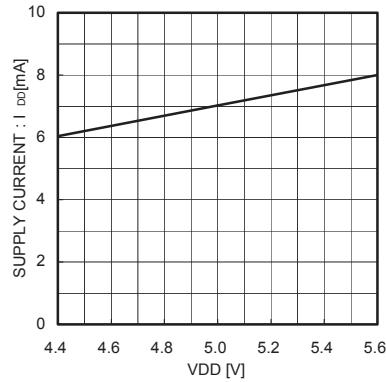

Fig.3 VDD Circuit Current
- Standby mode can be configured by I²C-BUS. Only the section marked in the dotted line, in the Figure 3, Block Diagram, is active during standby state. All others are off.